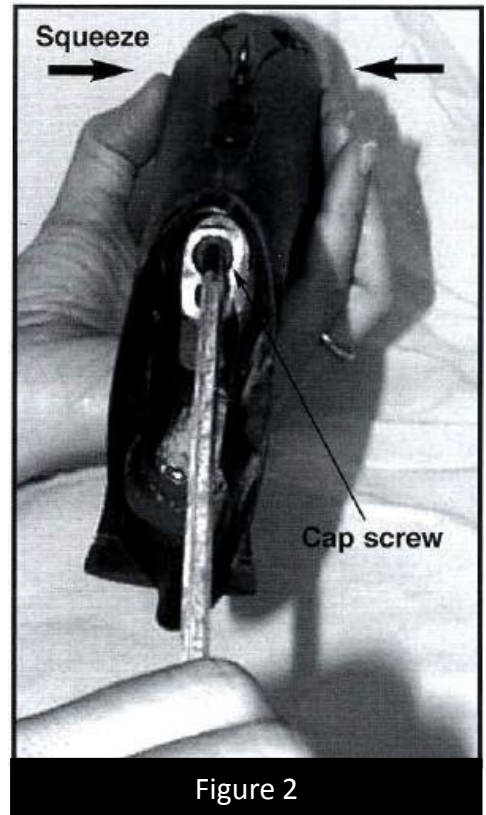

Figure 2
- A. Remove new “absorber unit” from grip [Ident.1] using the provided “T” handle tool to extract the ¼” socket head cap screw [Ident. C] (Figure 2)